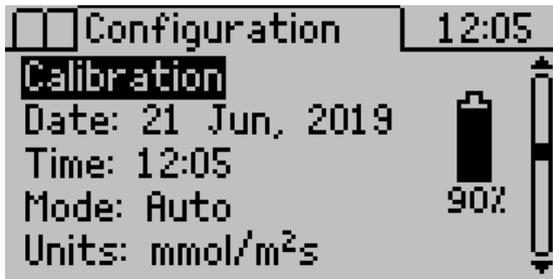

Figure 44 Configuration tab
6. Press **MENU** to navigate back to the Configuration tab (Figure 44).